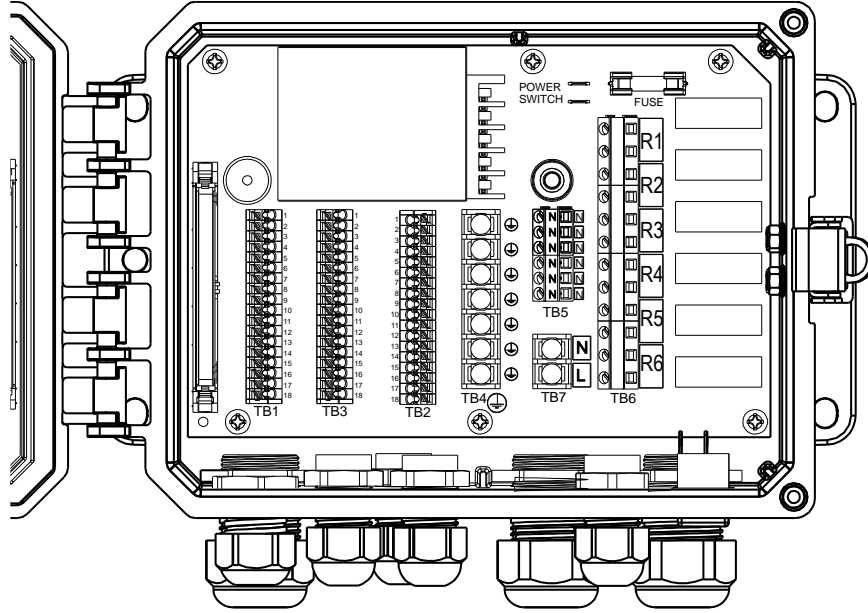

Figure 1
1. Open the front panel of the controller **AFTER POWER HAS BEEN REMOVED**. The Relay Board as shown in Figure 1 will have a ribbon cable and a number of discrete wires attached to it. These will have to be removed and later reinstalled on the new board. Some of these wires will be under a plastic safety cover (fastened with one captive flat head screw) that needs to be removed first.